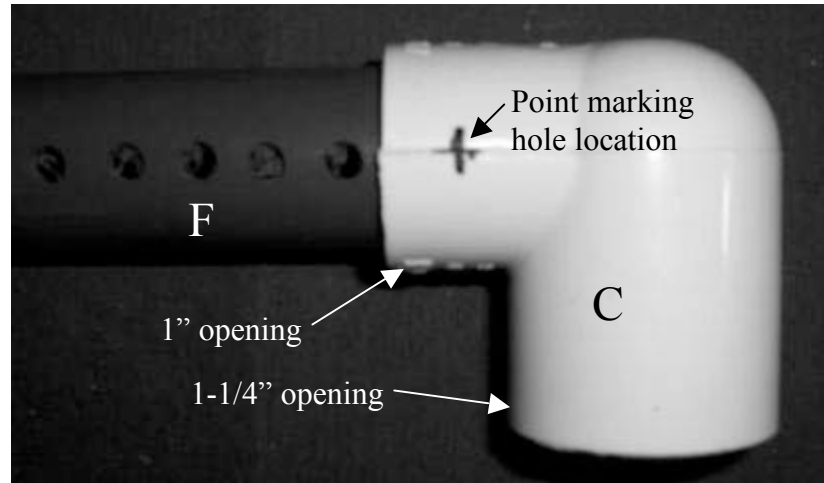
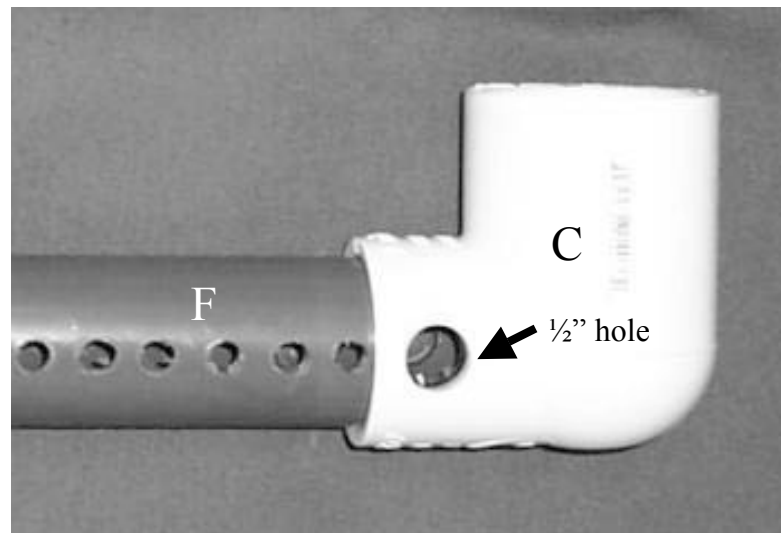

FIGURE 18 – Step 14 - Marking the Hole to be Drilled.
FIGURE 19 – Step 14 - 1/2 in Hole for Axle.
Step 14. Mark a point 1/2 in from the intersection and mid-plane (Figure 18) of the Part F and Part C (1 in opening side) connection to drill a 1/2 in hole for the axle (Figure 19). Drill a 1/2 in diameter hole through both walls of Part F and C assuring that the hole is perpendicular to the surface of Part C.